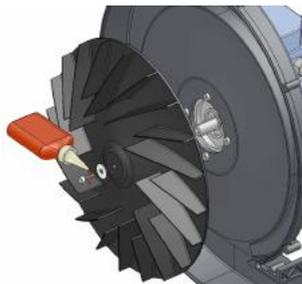

FIGURE 4
2. Secure the Ø310 impeller to the electric motor shaft using n°1 M5 socket head cap screw UNI 5931 and washer UNI 6593 (bolts supplied). Tighten to a max. torque of 8Nm. We recommend using thread lock on the screw for more effective locking (Loctite 270 or similar) (FIGURE 4);